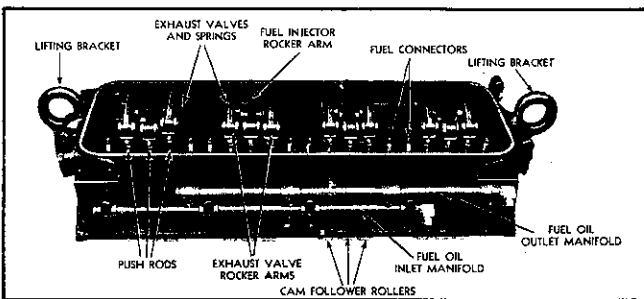

Fig. 8—Cylinder Head Assembly Ready to be Installed.
- (b) Using special tool shown in Fig. 8, Sec. 15, pry the injectors straight up and remove.